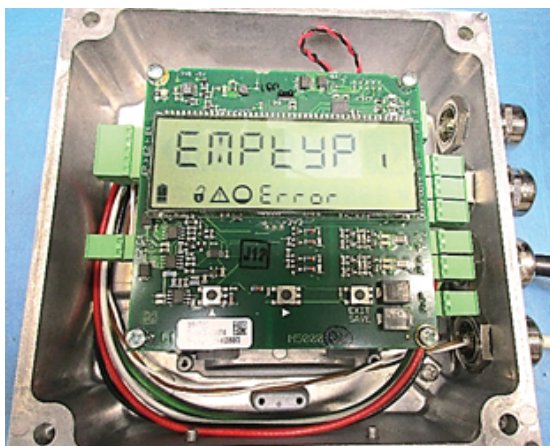

Figure 9: M5000 wires routed around bottom of housing
11. Route the wires of the electrode and coil terminal blocks around the bottom of the amplifier housing. See Figure 9.